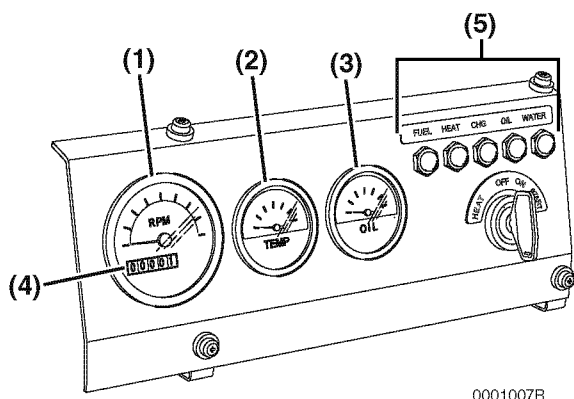

Figure 2
1. While the engine is running, check the gauges for normal indications. The gauges shown in **Figure 2** are provided for illustrative purposes only.
- **Tachometer - (Figure 2, (1))** Make sure the engine speed is within normal limits. See *Engine Speed Specifications* on page 69.
- **Engine Oil Pressure - (Figure 2, (3))** Make sure the engine oil pressure is within normal limits. See *the Principal Engine Specifications* starting on page 71.
- **Engine Coolant Temperature - (Figure 2, (2))** Make sure the engine coolant temperature is within normal limits.
- **Hour Meter - (Figure 2, (4))** The hour meter display shows the total number of hours the engine has run. This is useful for planning periodic maintenance operations. See *Periodic Maintenance Schedule* on page 43.
2. After the engine has reached operating temperature, all of the indicators (**Figure 2, (5)**) should be Off. If any of the indicators are On, shut down the engine and have the necessary repairs performed.